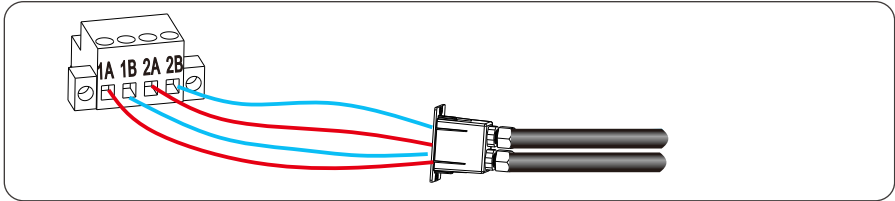

Figure 5.20 RS485 Terminal block connection
Step 4 Connect RS485 differential positive and negative signal of data logger to terminal 1A and 1B of inverter, and connect terminal 2A and 2B of the inverter to terminal 1A and 1B of another inverter. Figure 5.20.